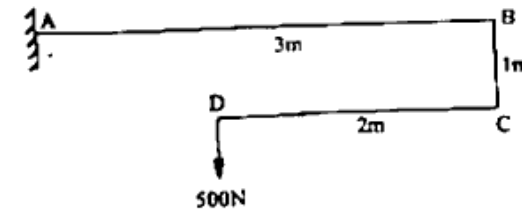

Figure 3 (चित्र 3)
3. A mild steel bar 100 mm diameter is bent as shown in figure 3. It is fixed horizontally at A and a load of 500 N hangs at D. Draw the bending moment diagram for the parts AB, BC and CD, indicating the maximum values. Find the maximum bending stress. also find the deflection at D. 14